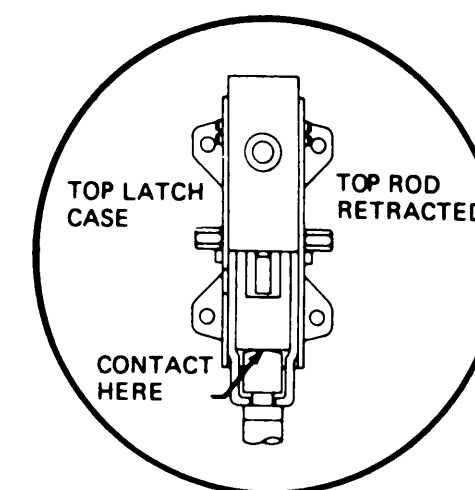

FIG. 4
- D. Attach top rod with rod guide. (See Fig. 3) adjust rod length so connector fits as shown (Fig. 4)